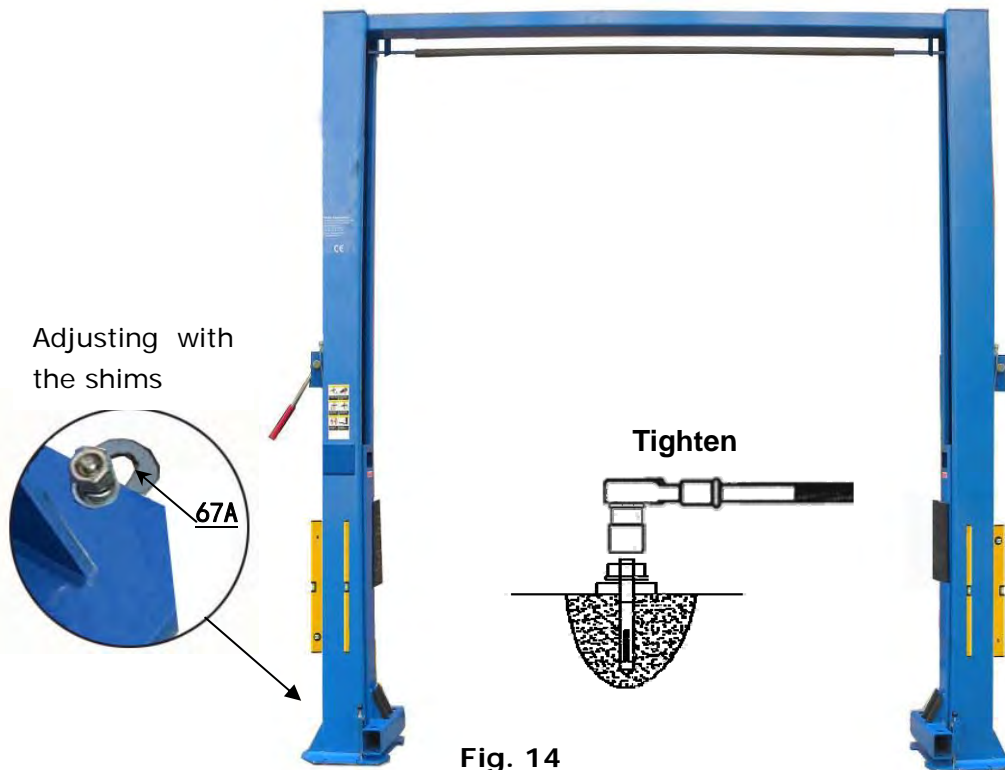

Fig. 14
J. Check the columns for plumb with a 4ft. level bar, and adjust with the shims. Tighten the anchor bolts (See Fig.14).